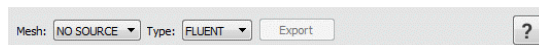

Figure 18.1: The General Area
- **A general area:** This area of the workroom lets you see or select the mesh currently set in the workroom. It also lets you select the solver type that is targeted in the workflow. An Export button is available whenever a mesh is created. It will export the mesh in the format selected from the type field (figure 18.1).